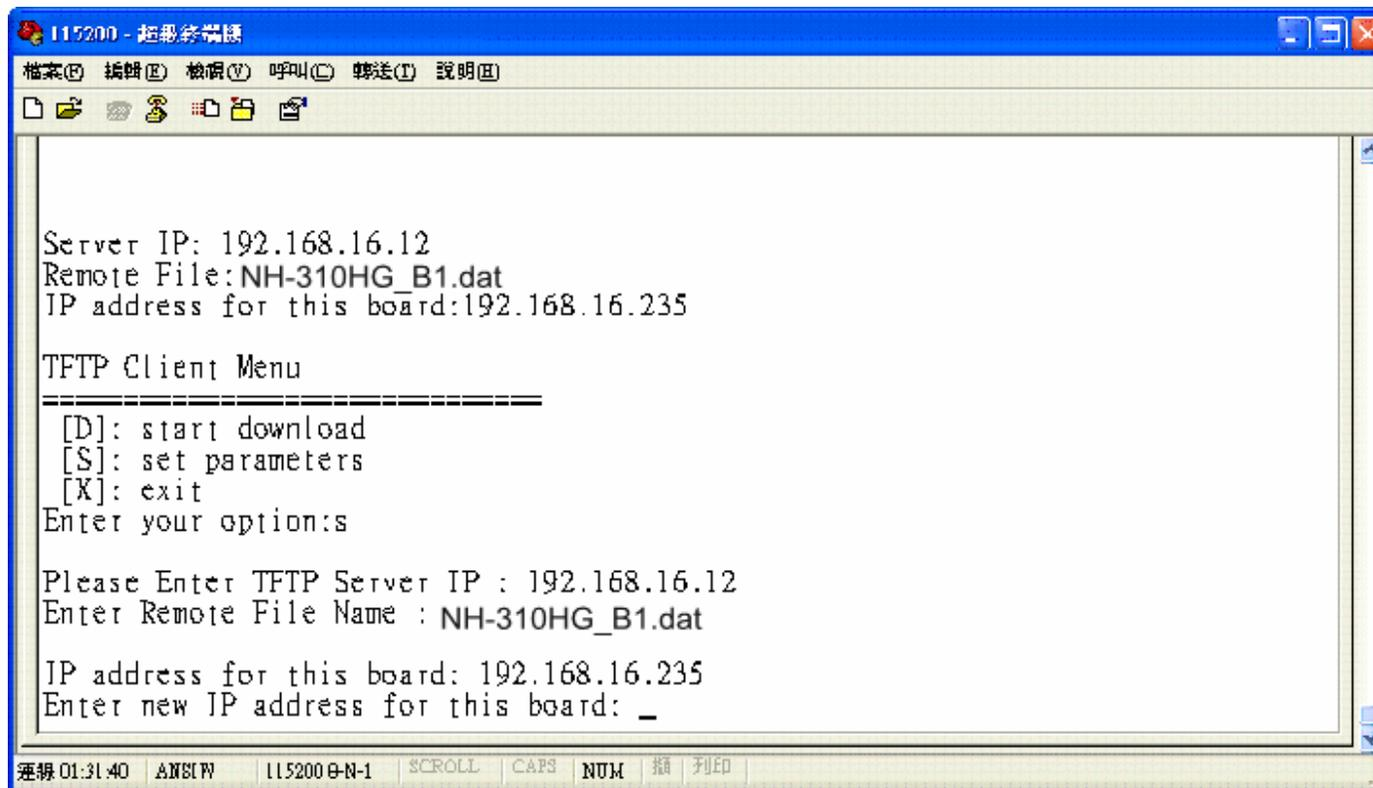

Figure 5.3.4 Set parameters
(4) Please enter your option: "s" as set parameters, then enter TFTP Server IP and Remote File Name as the NH-310HG firmware for upgrading. A screen is displayed as shown in Figure 5.3.4.